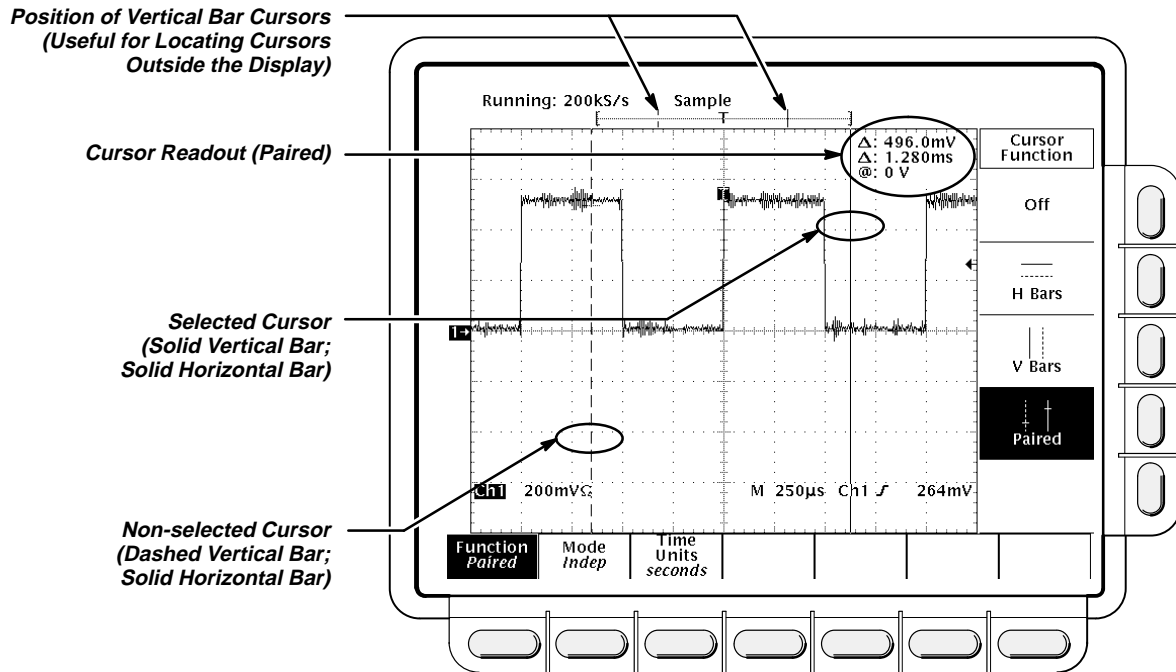

Figure 3-7: Paired Cursor Menu and Readouts
- Paired:** the value after one Δ shows the voltage difference between the two short horizontal bars; the other Δ shows the time (or frequency) difference between the two long vertical bars. The value after the @ shows the voltage at the short horizontal bar of the selected cursor relative to ground (see Figure 3-7).